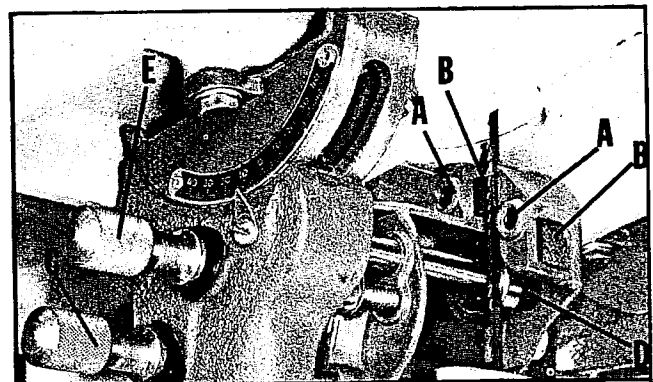

Fig. 29
1. Loosen the two screws (A) Fig. 29, and move the guides (B) as close as possible to the side of the blade, being careful not to pinch the blade. Then tighten screws (A).
2. The front edge of the guide blocks (B) should be adjusted so they are just behind the "gullets" of the saw teeth by turning the knurled knob (C) Fig. 29.
3. The lower blade support bearing (D) Fig. 29, should be adjusted so it is about 1/64" behind the back of the blade by turning the knurled knob (E).